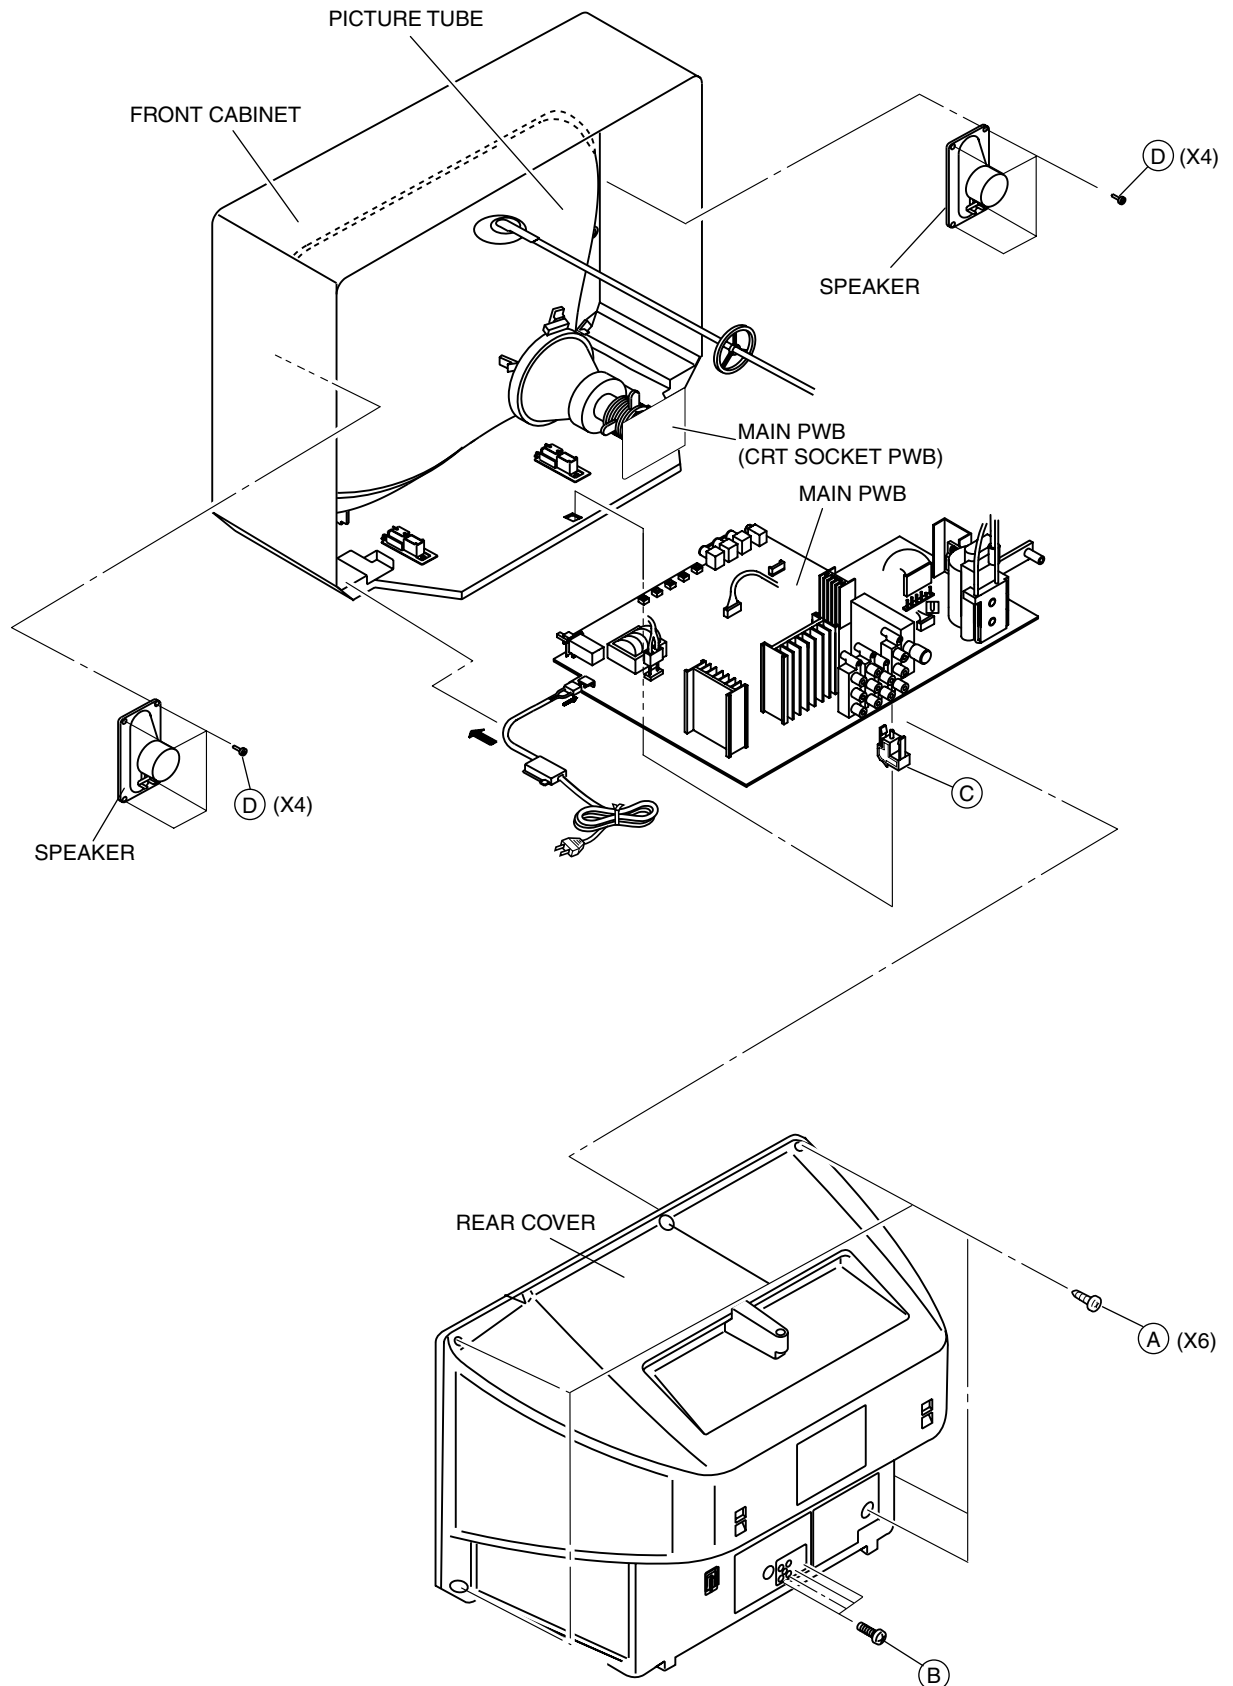

Fig.1
2. Remove the 6 screws marked (A) and 4 screws marked (B) as shown in Fig.1.
1. Remove the 4 screws marked (D) as shown in Fig.1.